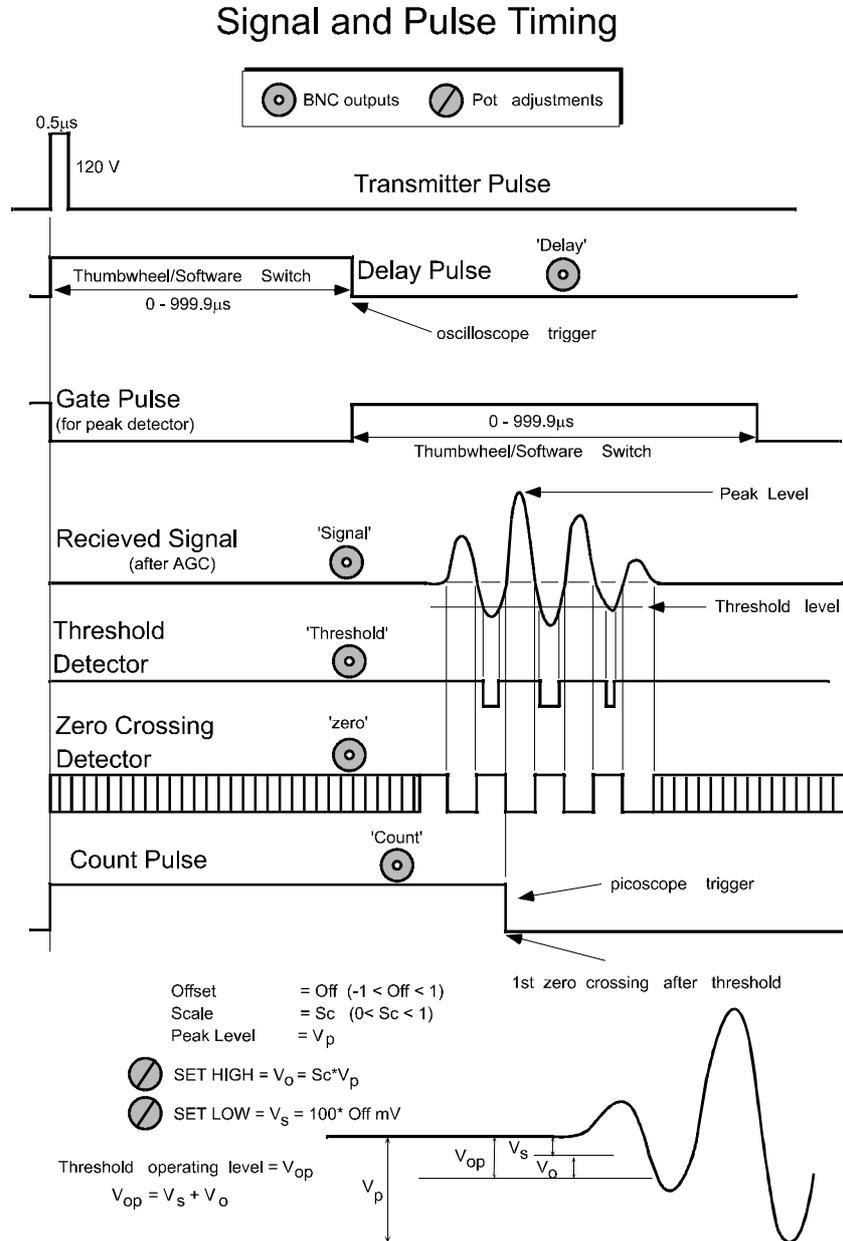

Figure 6-10. Signal and Pulse timing diagram for the Mark I P-wave system.
- V. Check that the count pulse occurs at the zero crossing following the first negative excursion (see Figure 6-10). If not, the 'scale' and 'offset' adjustments for the threshold detector need resetting. Note that the threshold and zero crossing pulses can be monitored directly from the front panel.
- The threshold voltage level has been adjusted prior to delivery. However the following should be used as a guide to reset or adjust the threshold voltage level (should it become necessary) using the 'scale' and 'offset' pots (refer to Signal Timing Diagram in Figure 6-10). The purpose of these adjustments is to ensure that the threshold operating level V_{op} consistently picks first -negative excursion over as wide an amplitude range as possible.